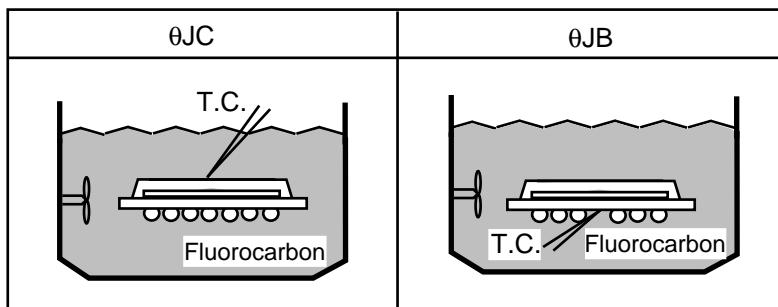

Fig.1 Definition of measurement
5.  $\theta_{JC}$  is measured at the center of mold surface in fluorocarbon.(See Fig 1.)
6.  $\theta_{JB}$  is measured on the center ball pad after removing the ball in fluorocarbon. (See Fig 1.)